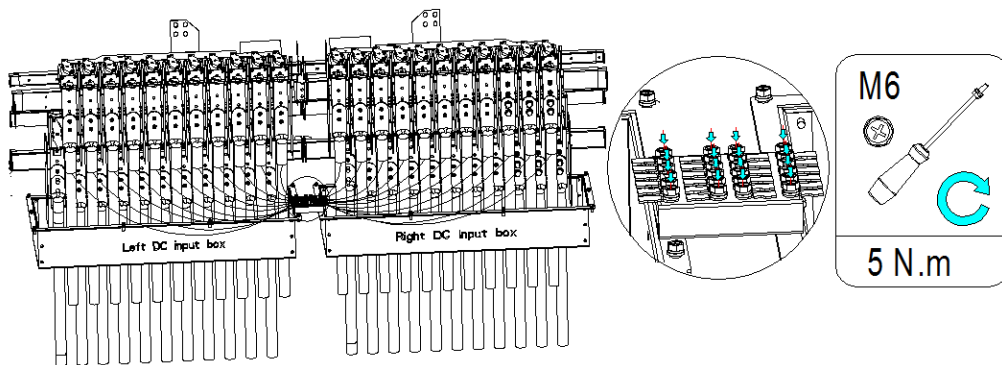

Figure 3-4 Connection of the PV cable and ground bar
Step 4: As shown in Figure 3-4, the ground wire of the PV cable and the negative electrode cable enter the inverter cabinet through the wiring hole, crimp the appropriate terminal, and then use the bolts reserved on the ground bar to fix the ground wire terminal to the ground bar.